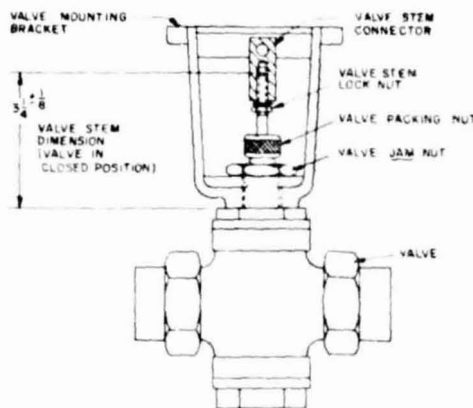

Fig. 5 — Valve body mounted to bracket.
7. Assemble parts as shown in Figure 5. Tighten the valve jam nut (not the packing nut).